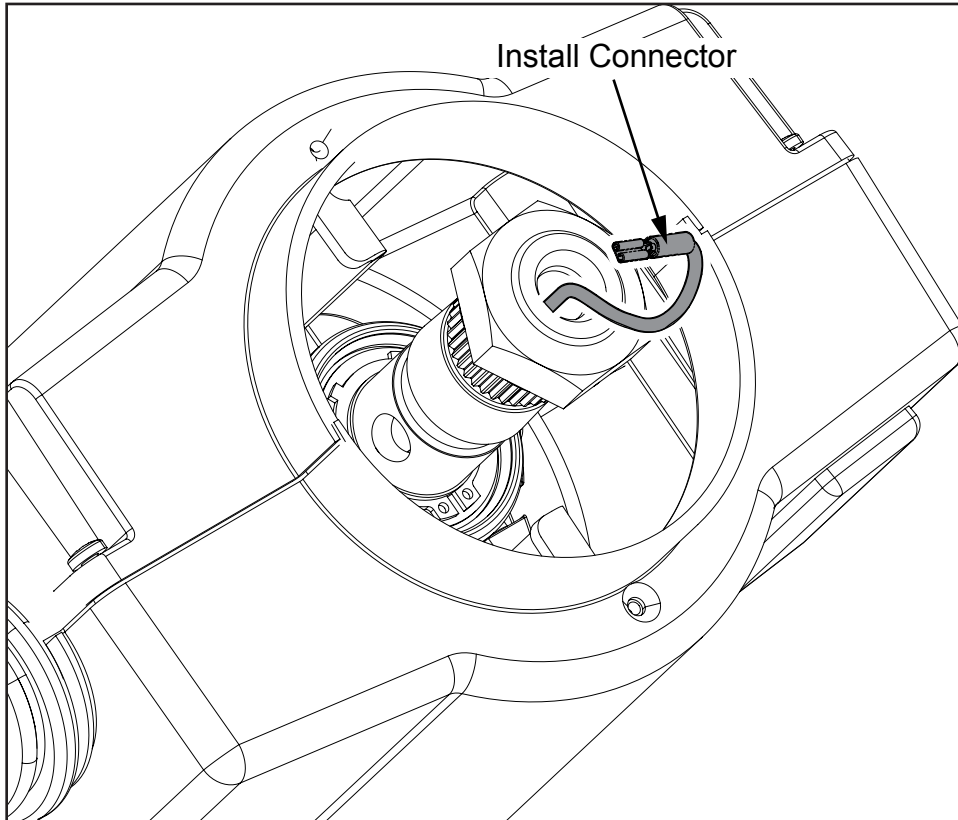

Figure 4
5. Reroute the horn wire through the center of the steering column shaft. Using a crimping tool, Install (1) S3800001-001 connector to the end of the horn wire (see Figure 4).